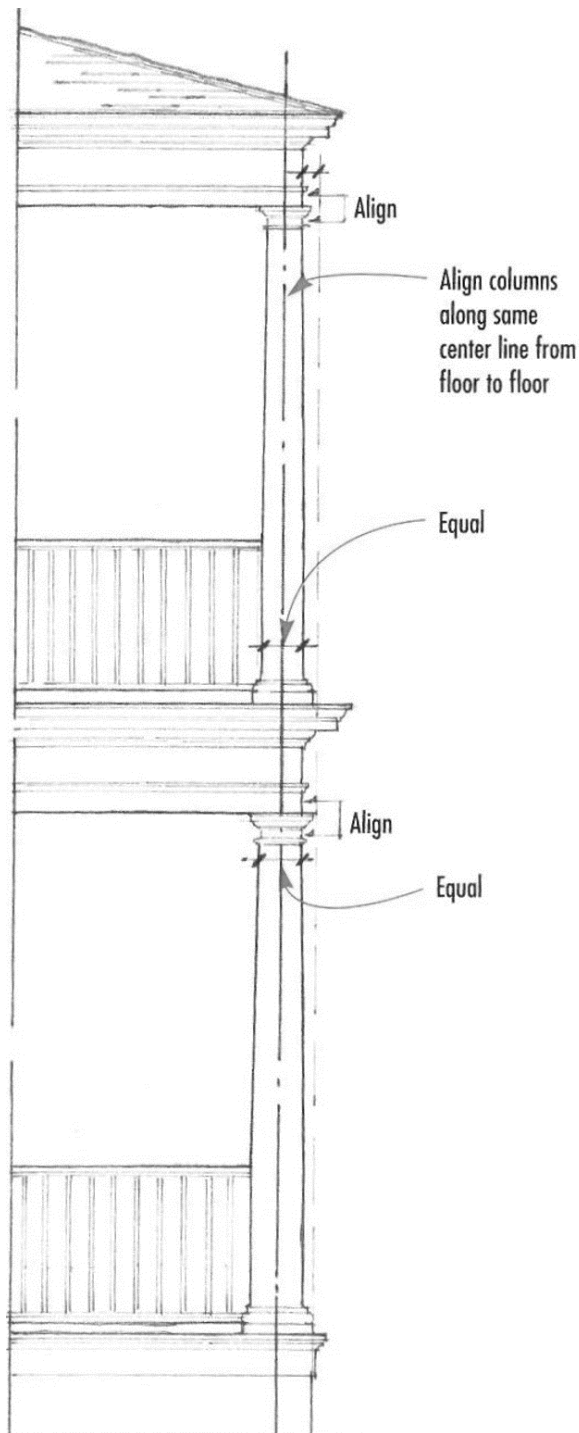
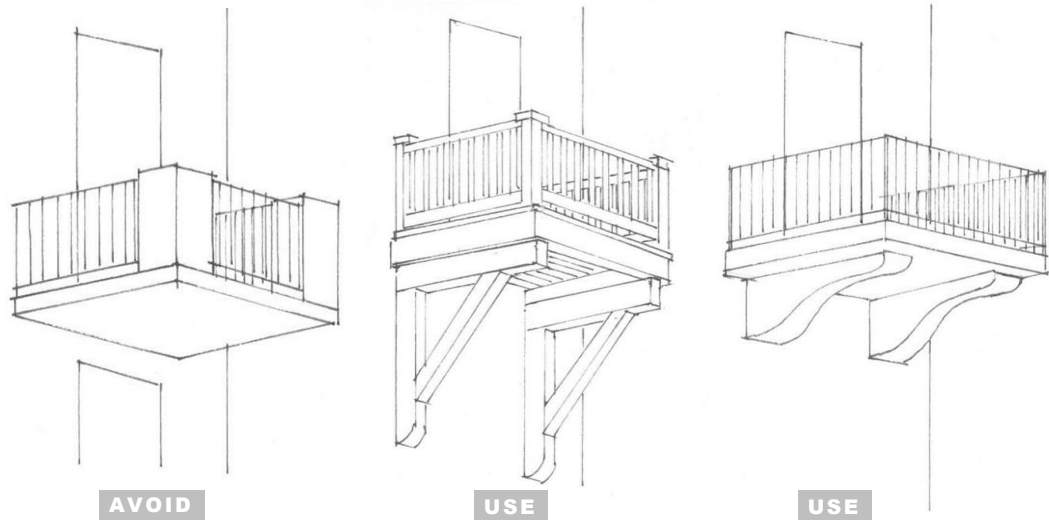

Figure 25: Columns on Two Stories. Source: Marianne Cusato, *Get Your House Right* (Canada: Sterling, 2007), 177, fig. 8.9.
Figure 26: Visible support for balconies that extend more than two feet from building
4. Be a minimum six (6) inches in width and depth for wood posts.
5. Be positioned on two consecutive stories such that the column centerlines align vertically and scaled such that the base diameter of the second-floor column is more or less equal to the neck of the first-floor column (Figure 25).
- e. Arches over columns that are part of an arcade shall have no less than eight (8) inches in depth.
2. Project at least two (2) feet to create a standing or "Juliet" balcony, and no more than six (6) feet from the building wall.
3. Be deeper than six (6) feet only if it is partially or wholly inset within the main body of the building.
4. Be visually supported from below, if projecting more than two (2) feet, by brackets or another structurally implicit mechanism, which must extend a minimum of 85% of the depth of the balcony, or else be supported by adjacent side walls (Figure 26). Exceptions may apply for the Mid-Century Modern and Masonry Modern architectural styles.
5. Have a minimum underside clearance of nine (9) feet.